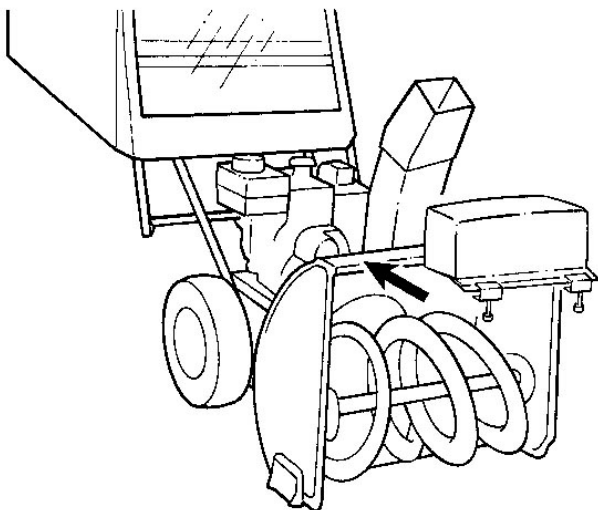

FIGURE 3
- A. See 2-A: Start two(2) 5/16 x 1 1/4" capscrews into the sand bag mounting bracket clamps. Do not screw in too far.
- D. See Figure 3: While holding the ends of both the mounting bracket rod and closing rod. Slip the bracket over the top front edge of the auger housing and tighten the bracket capscrews securely to hold the sand bag in place on the machine.